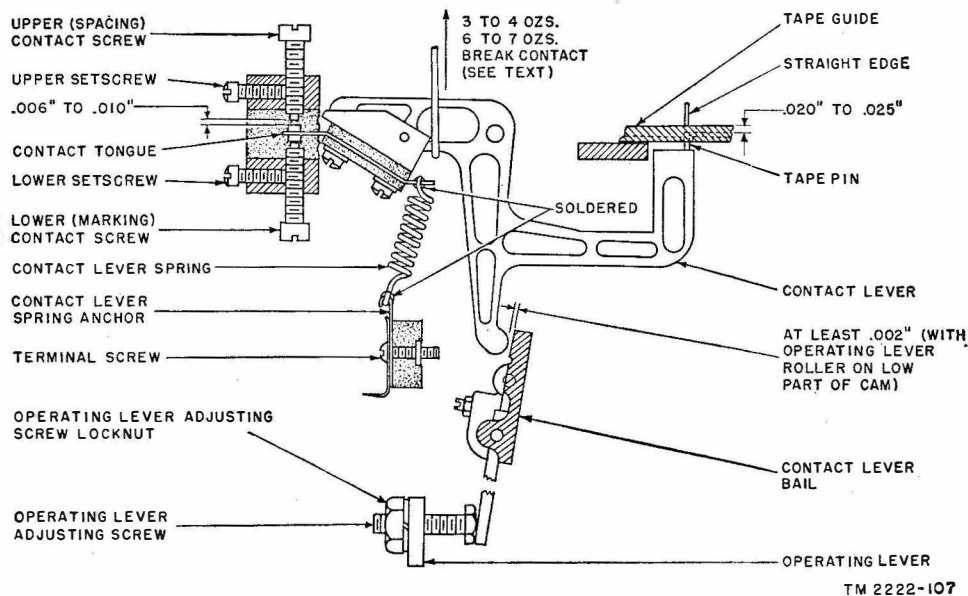

Figure 64. Contact screw and contact-lever spring tension requirements.
c. ADJUSTMENT. Loosen the operating lever adjusting screw locknut and turn the adjusting screw (fig. 64) in or out as necessary. Tighten the locknut and recheck the requirement.
### 115. Marking (Lower) Contact Screws (fig. 64)
(fig. 64)